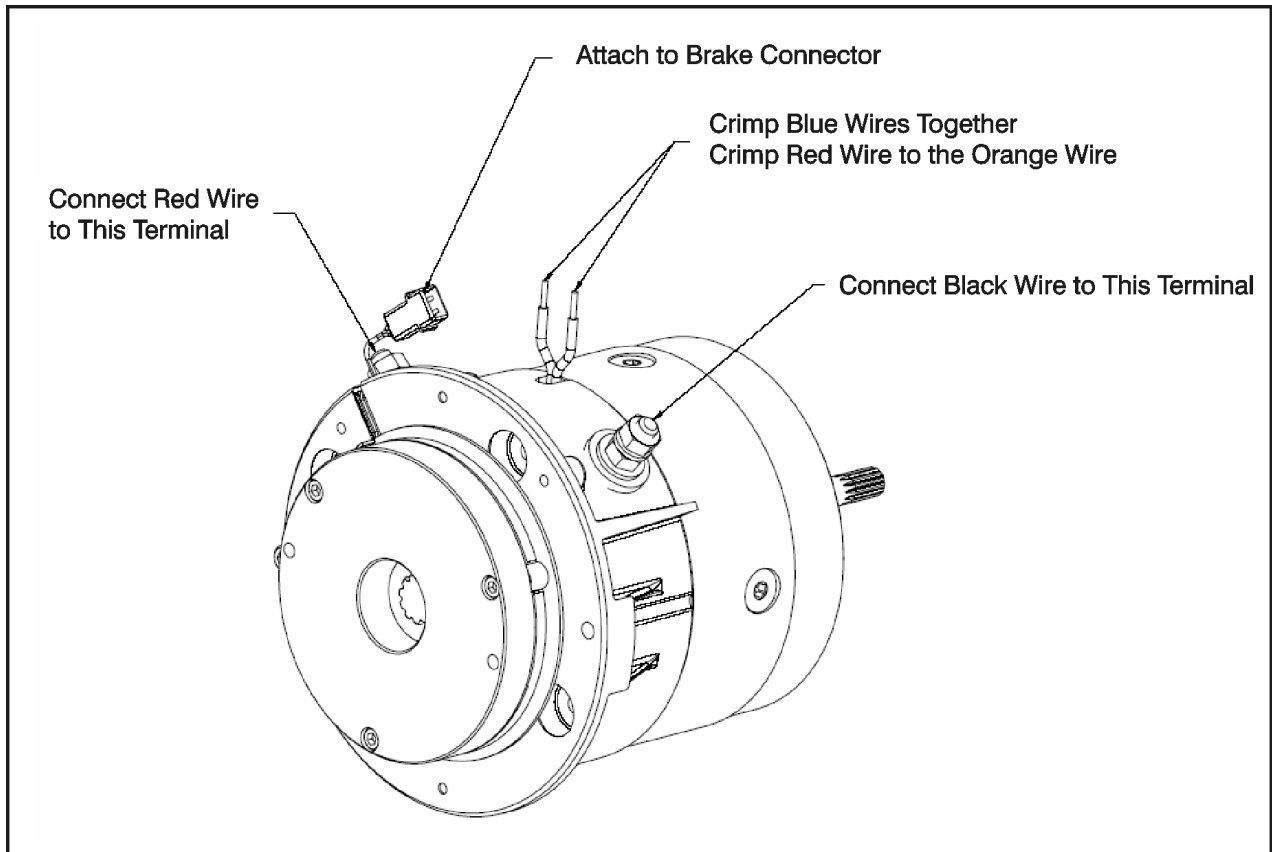

Figure 3-31. Wire Harness Connections
1. After inspection and servicing, reassemble the wiring in the Commutator End Head (9) as originally found. Ensure the wiring does not contact metal parts and that it allows the brushes to move unrestricted in the holders. Motor terminals must be assembled as shown Figure 3-31. Torque bottom terminal nut to 110 - 140 in-lb (12.4 - 15.8 Nm).